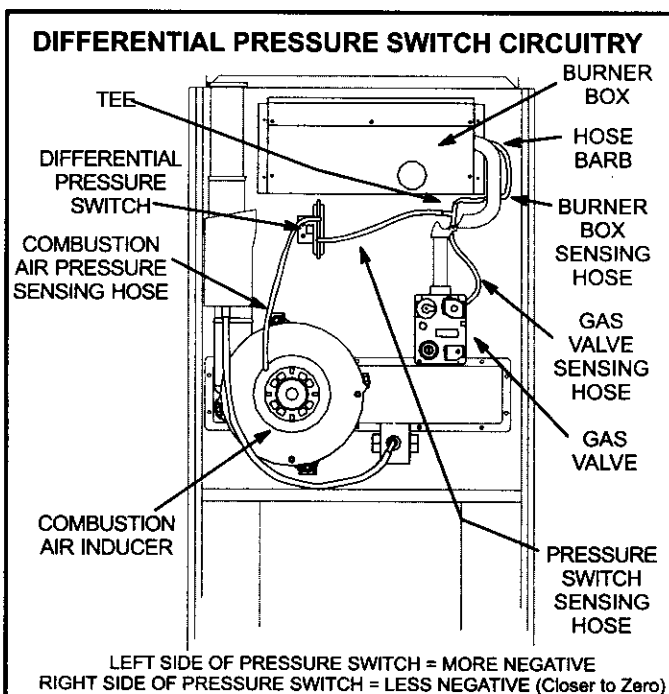

FIGURE 36
- 2 - Disconnect pressure sensing hose from gas valve and plug hose by covering opening with tape or equivalent. Leave barbed fitting on valve open to atmosphere. See figure 36.